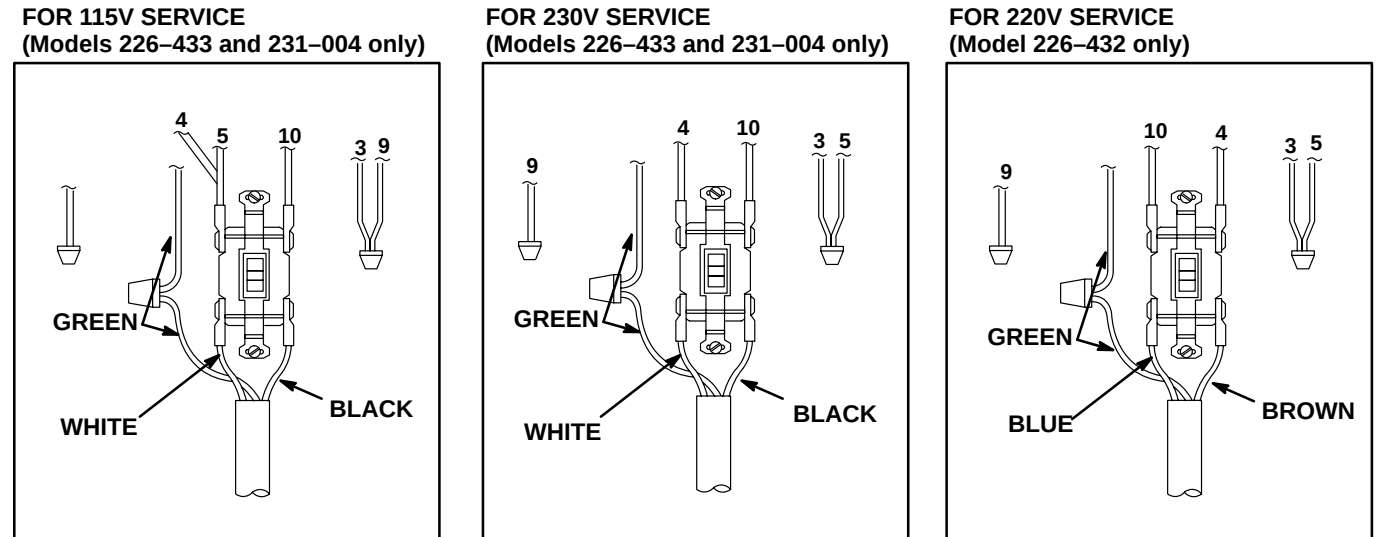

Fig 13
1. Remove the shield (119), the four screws (9) and washers (17) and the upper fan guard (82). Loosen the fan blade setscrew and remove the fan (26).
2. Remove the switch box cover (34) and disconnect the power cord wires. Do not scratch the smooth mating surfaces of the switch box (65) and cover (34).
3. Drive out the two spring pins (16) and then pull out the handle (75). Hook the switch box conduit with a hoist and lift the unit about 6 in. (150 mm) off the floor. Pull the cart frame (74) down out of the support mounting (44) and move it out of the way.
4. Remove the eight screws (4) and washers (5) holding the reservoir mounting (44). Raise the unit high enough for the reservoir (66) to clear. Pull the reservoir down off the unit and pour out the hydraulic fluid.
5. Carefully lower the unit and tilt it back until the arms of the support mounting (44) are resting on the floor.
6. Put the cart handle (75) through the arms. Hold the hook on the switch box (65) as you lower the unit to make sure it doesn't slip off.
7. Remove the four electric motor mounting screws (7 – see page 20), hold the motor (63) by the shaft and switch box (65), and then rock it from side to side to free it from the support mounting. Carefully pull it out of the cooling coils (46).
8. Screw the switch box (65) and nipple (11 – see page 20) out of the motor. Take the coupling off the motor shaft and install it on the new motor. When installing the nipple and switch box, engage the threads at least five full turns.
9. Carefully slide the new motor through the cooling coils (46), forcing it into the support mounting, and tightly install the mounting screws.
10. Set the gap between the two coupling halves at 0.31 in. (0.8 mm), and then tighten the coupling setscrew securely. See Fig 13, page 19.
11. Clean the reservoir (66) of sediment and reassemble the unit using a new gasket (47). Fill the hydraulic fluid reservoir through the fill hole filter (55).
Electric motor wiring diagram See Fig 13.